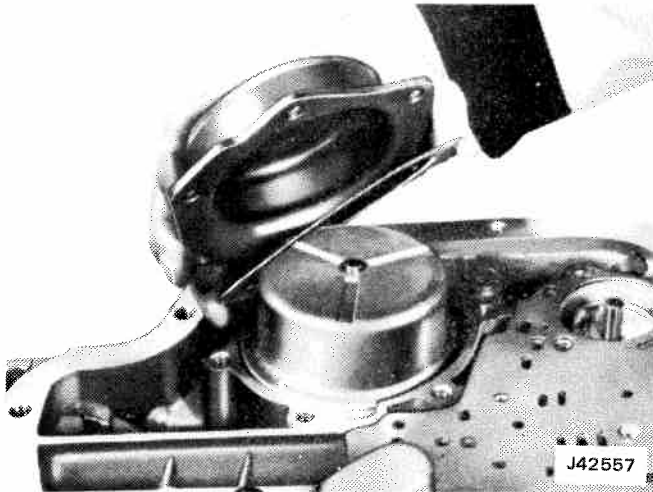

Fig. 7-127 Installing Cover and Gasket Over Rear Servo Assembly
- (3) Lubricate and install rear servo assembly into transmission case.
- (4) Install rear servo and gasket cover on transmission case as shown in figure 7-127, and secure with attaching screws. Tighten screws 15 to 20 foot-pounds.